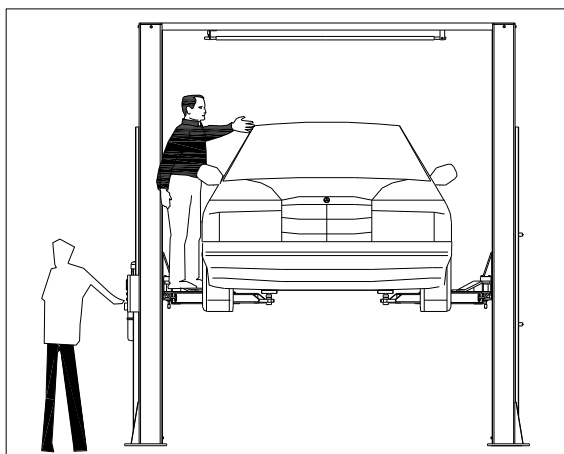

Fig. 21
**NEVER BOARD THE VEHICLE AND/OR TURN THE ENGINE ON WHEN LIFT IS RAISED. (Fig. 21)**